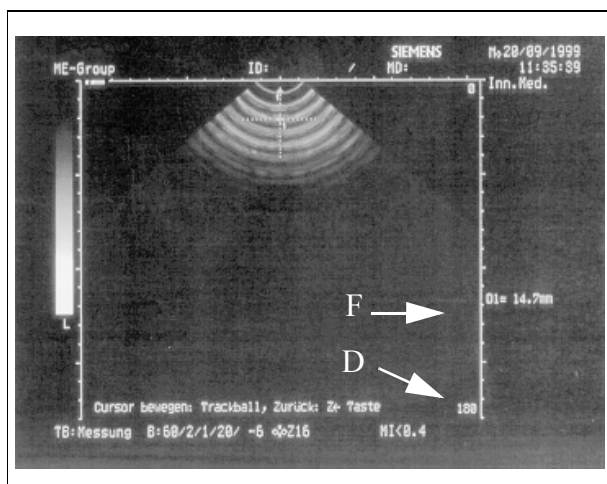

Fig. 10
- Set the value (D/Fig. 10, 11) to 180 using the knob .
- Use the track ball to move to the center of the crosshairs. In the display (F/Fig. 10), a value of - see Table - must appear that is relative to the probe.